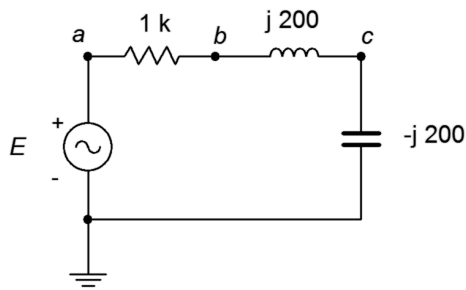

Figure 2.22
39. For the circuit of Figure 2.22, determine the circulating current and the voltages across each component. E is a 1 volt peak 2 kHz sine. Also, draw a phasor diagram of the four component voltages.
40. For the circuit of Figure 2.22, find v_b and v_{ca} . E is a 1 volt peak 2 kHz sine.